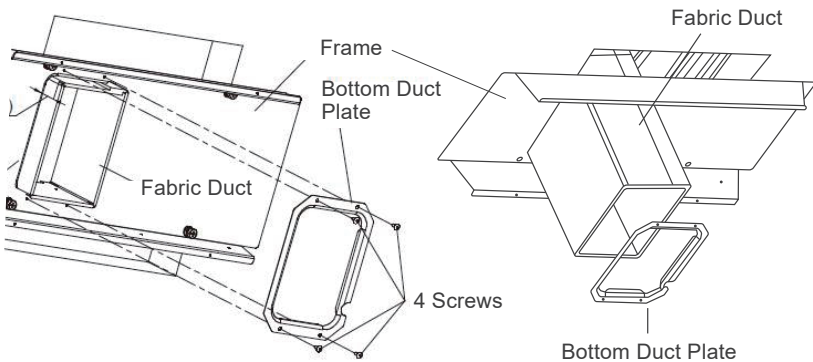

Figure 10
- Secure the bottom duct plate to the ceiling assembly frame with 4 tapping screws (see Figure 10) and fasten each side of the fabric duct. After the securing, there might leave some spare fabric that may extend beyond the edge of the bottom duct plate need to be cut.